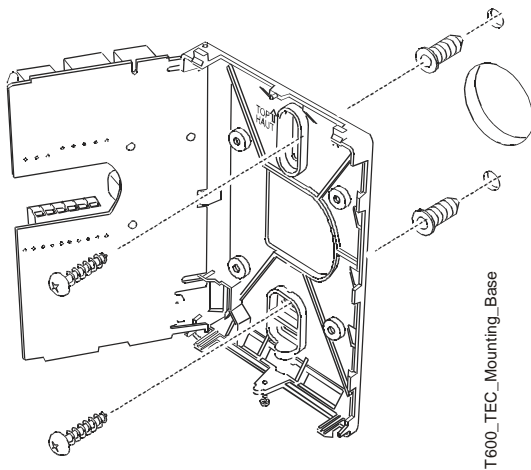

Figure 3: Mounting the Thermostat Base
5. Use the supplied anchors and screws for mounting on drywall or plaster. Drill two 3/16 in. (4.7 mm) holes at the marked locations and tap nylon anchors flush to wall surface (Figure 3).